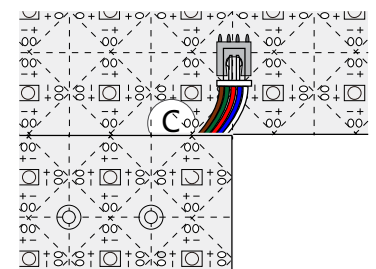

Figure 9
Soldering directly to the copper pads on the sheet provides another method of power input. Figure 9 shows the use of a longer sheet-to-sheet connection wire (C) with one connector cut off as a means to connect power from a connection block on one Light Sheet to another Light Sheet that has none available. Carefully solder the grey striped wire to a positive (+) copper pad and the solid white wire to a negative (-) copper pad.